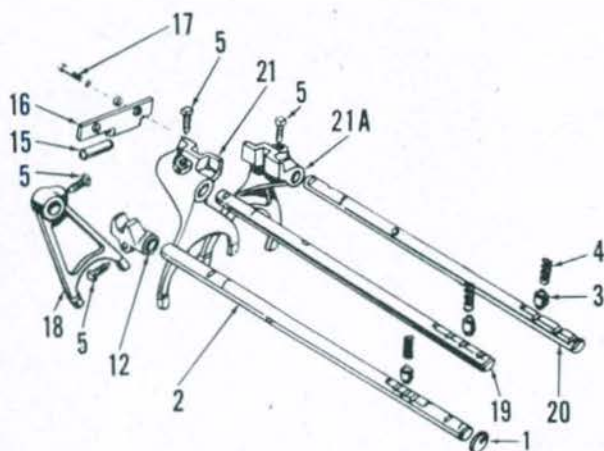

Fig. 122—Exploded view of shifter rails and forks of the type used on six-speed models.
ferential housing as outlined in paragraph 119. Remove detent springs (4—Fig. 122) and plungers (3) from top of housing. Remove shift rail interlock plate (16) from rear of housing. Remove set screws retaining shift forks to rails, then withdraw shift rails and forks from transmission case.